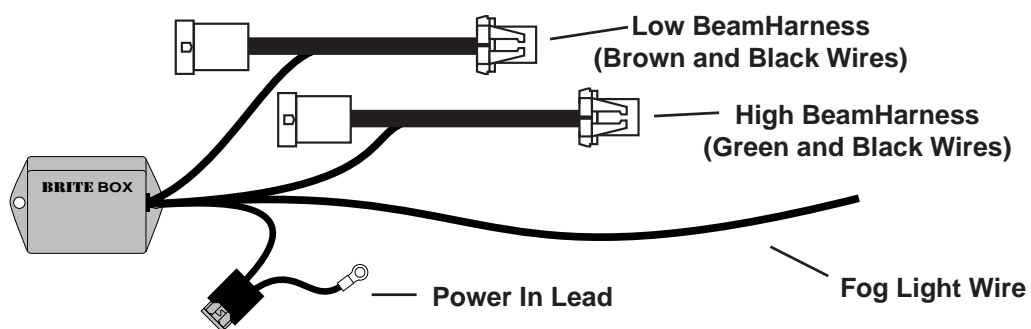

Figure 1
STEP 2: Find a suitable location to mount Brite Box on inner fender of vehicle near battery. Make sure the low and high beam harnesses from Brite Box (see figure 1) can be run to the vehicle's headlight wires. The red wire (attached to fuse holder) of Brite Box must be able to reach positive (+) power lug near main underhood fuse box of truck.
STEP 5: Route Brite Box's FOG LIGHT WIRE (see Fig. 1) to fog light on same side of vehicle where you installed Brite Box. Brite Box's fog light wire only needs to be connected to one fog light to work both of them. Make sure wires do not pass over any rough / sharp edges that can wear through the insulation and cause a short circuit over time. Use supplied cable ties to secure fog light wire from Brite Box in a neat and tidy manner.